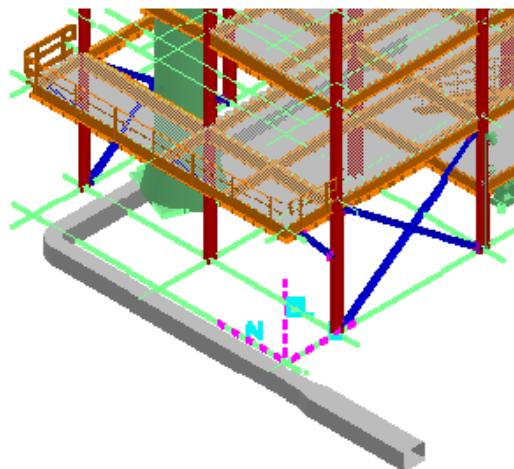

Figure 6: Routed Cableways
15. Key in **2 ft** as **Width**, **43 ft** as **Length**, unlock the **Angle** and position the cursor in north direction to extend the duct bank, as shown in Figure 6.